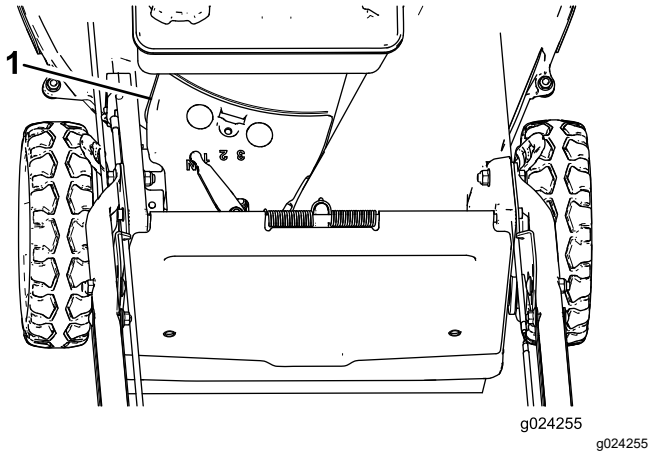

Figure 27
3. Remove the belt cover (Figure 27) from the mower housing.